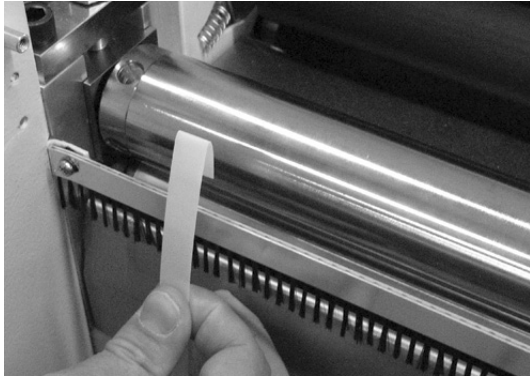

Figure 8a
1. Optional Flow Straps can be used when processing thicker paper stock. To install, fold over 1/2 inch of strap. (figure 8a)